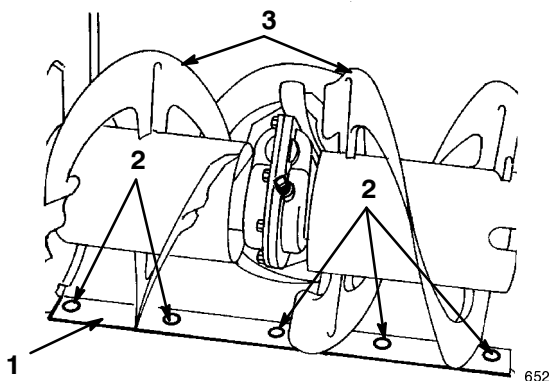

Figure 26
- Support the **auger blades** so that they are 1/8 inch (3 mm) off the ground (Fig. 26).
- To adjust the scraper, loosen the five mounting screws (Fig. 26), level the blade, and tighten the mounting screws.